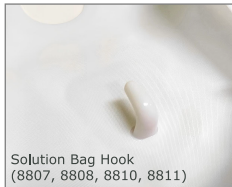

FIGURE 1:
4. Hang loop of intravenous bag on to welded solution bag hook located just above panel on pressure bag (Figure 1).